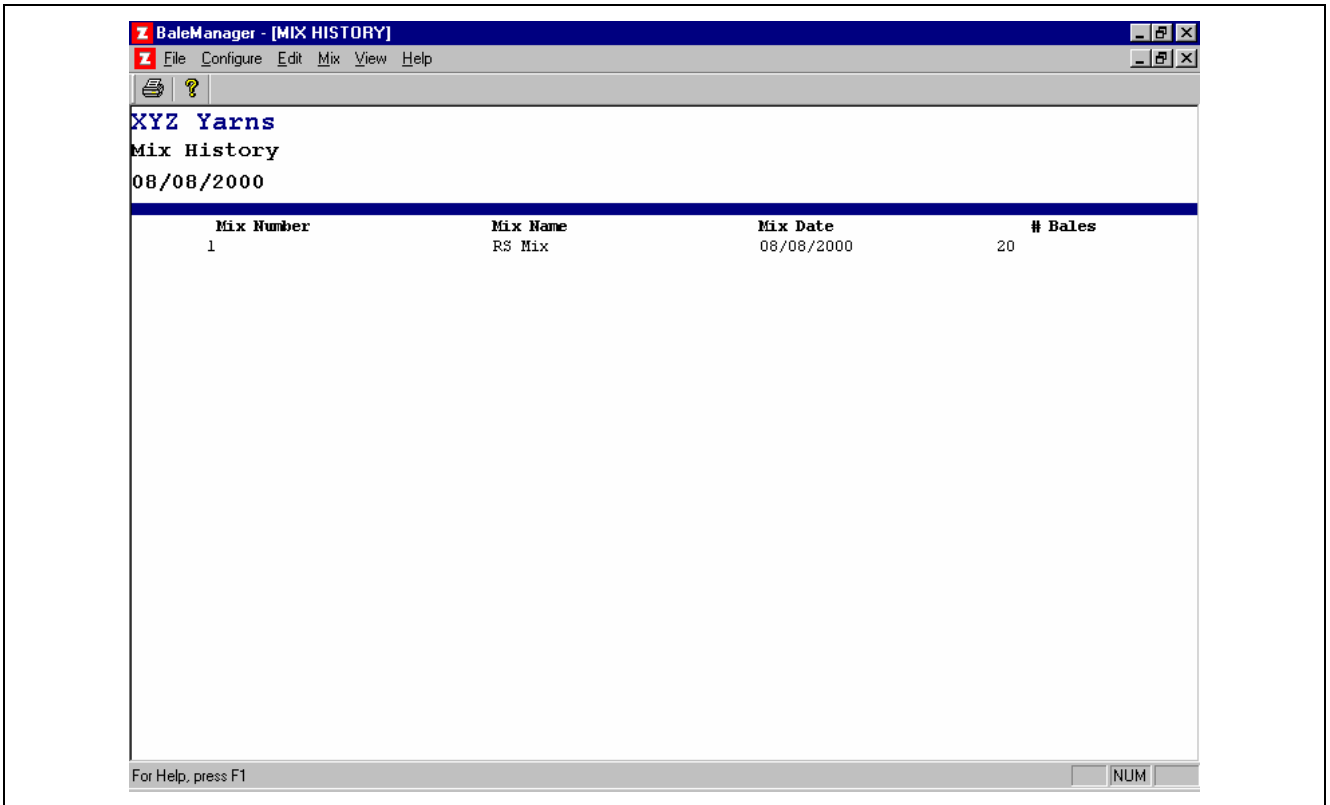

Fig. 6-95 Mix History Screen
28.1 Select Mix History and the window of Fig. 6-95 appears listing all of the previous 20 mixes. Exit by using the upper right hand corner X to return to the Bale Manager window of Fig. 6-58.